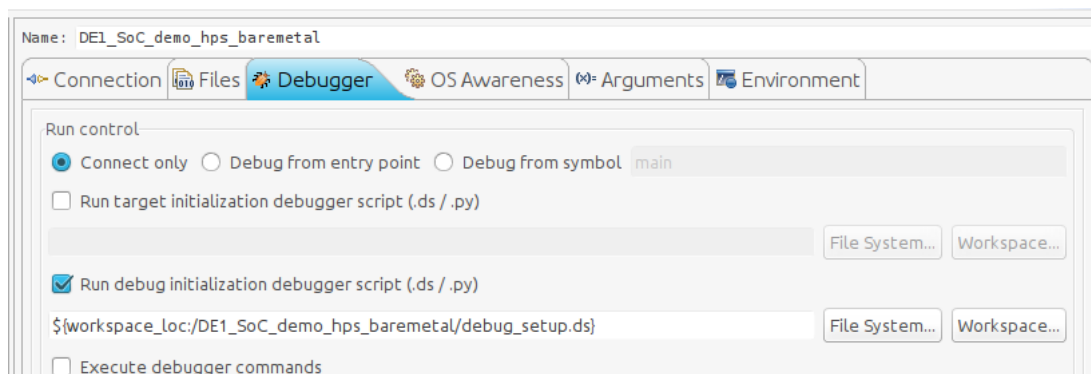

Figure 8-32. Debug Configuration "Debugger" Tab
- b. Enable the “Run **DEBUG** initialization debugger script (.ds / .py)” checkbox. Set the debug script to the one we defined for the project in 8.4.2.3.2.2. You should have something similar to Figure 8-32.